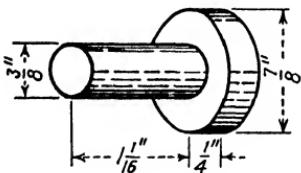

Fig. 306.
- 35.** Calculate the weight of 144 steel pins as shown in Fig. 306.